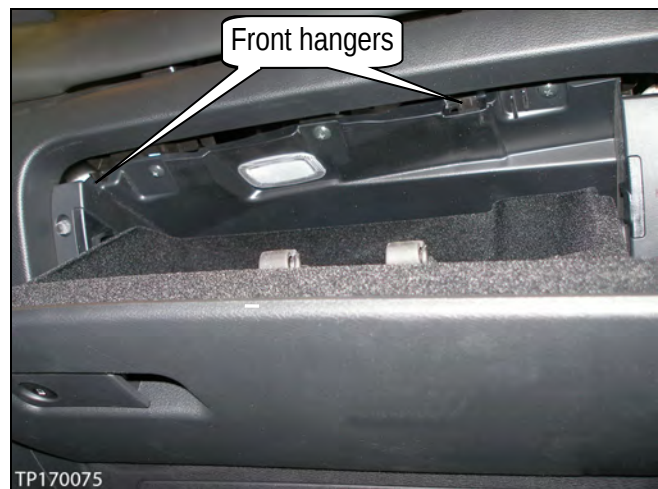

Figure 45
- The glove box will need to be unhooked from front and rear dowel type hangers (see Figure 45 and 47).